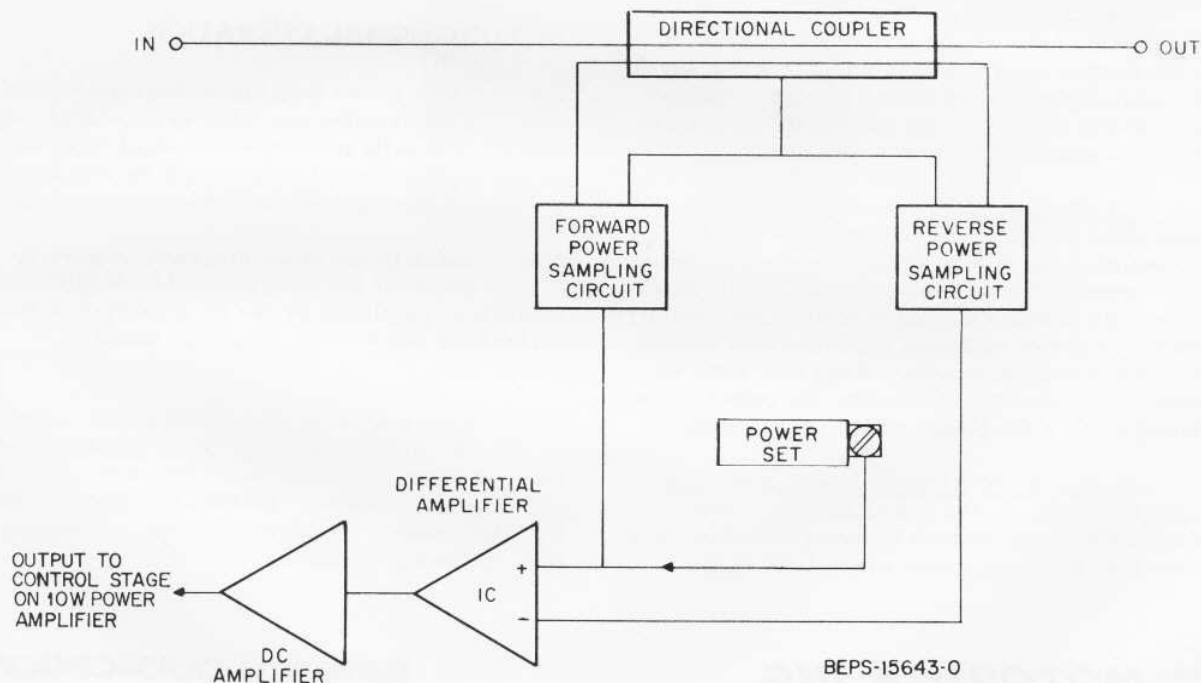

Figure 2.
2.2 Refer to the block diagram, Figure 2. The output of the integrated circuit differential amplifier, amplified by the dc amplifier is the controlling input to the amplifier board.